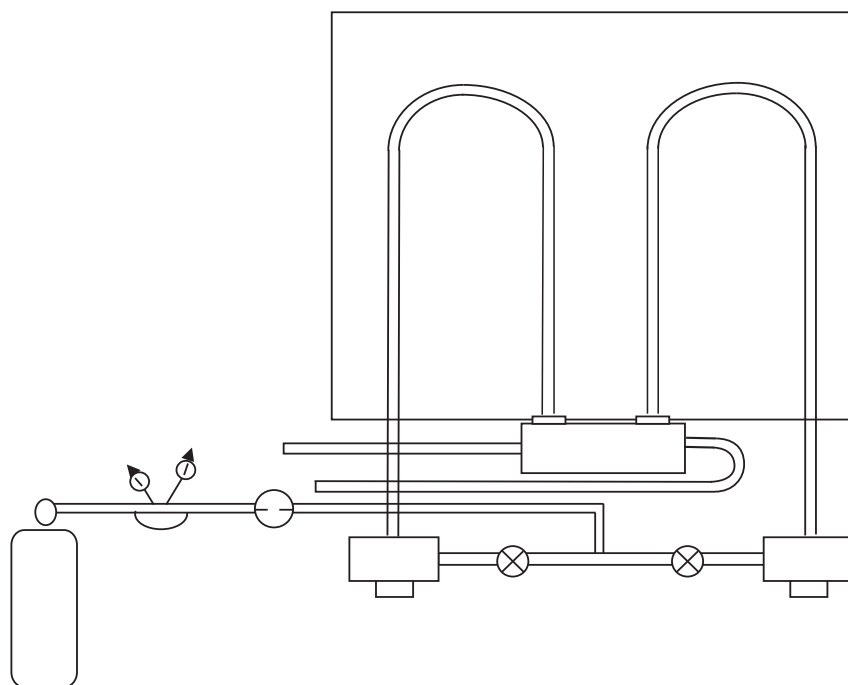

Figure 7-1
- c. Replace the columns with lengths of CLEAN copper tubing (Refer to Section 3, paragraph H, and Figure 7-1)
- f. With DETECTOR CURRENT at 100 mA, observe (1) completion of acetone purge, and (2) correction of detector contamination.